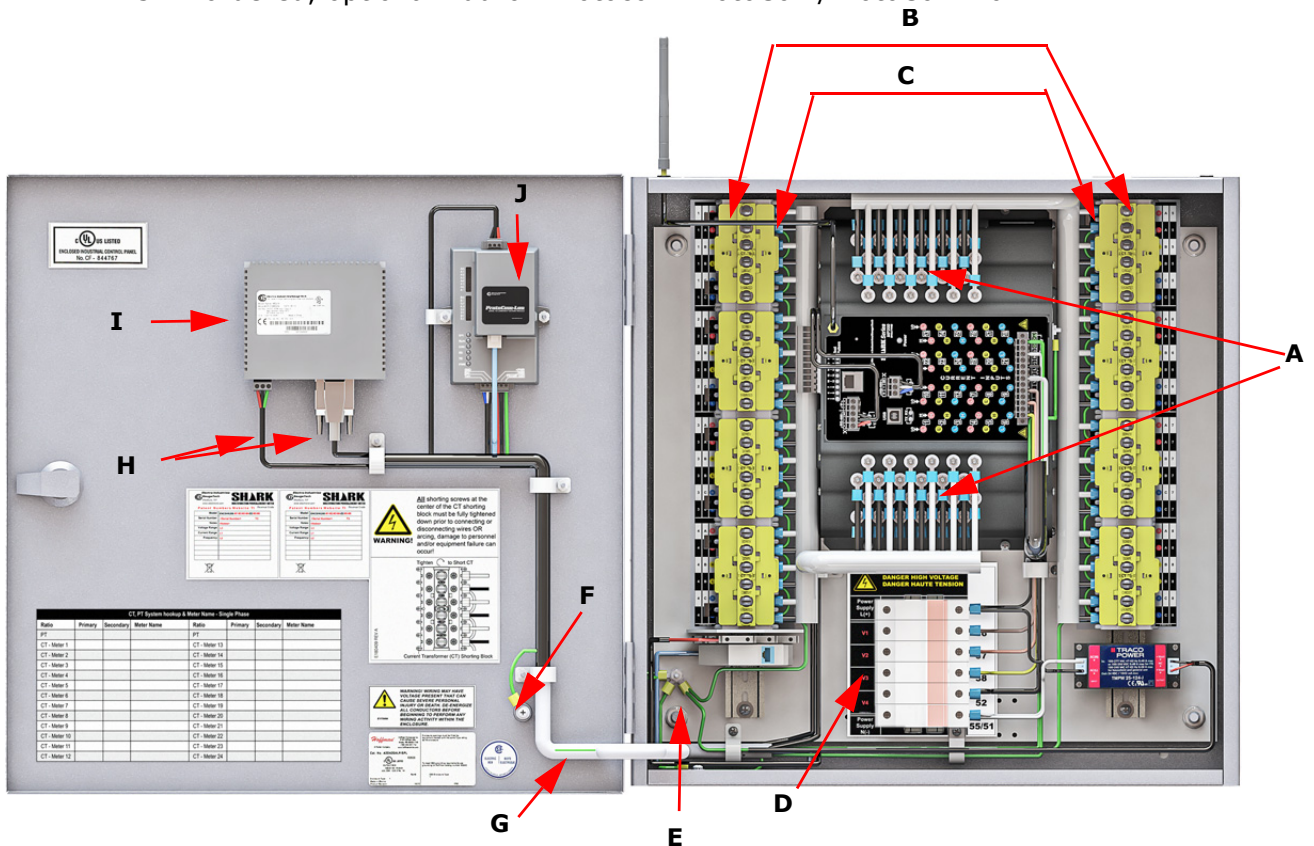

Figure 2.1: MP200™ in NEMA 1 Enclosure as Shipped
6. Carefully insert the rear module (2), with the yellow button to the top of the enclosure, and push the rear module until it locks into place. When it is in place you will hear a "click."
7. Connect the cable to the rear module: see figures 2-1 for a NEMA 1 enclosure or 2-2 for a NEMA 4 enclosure.